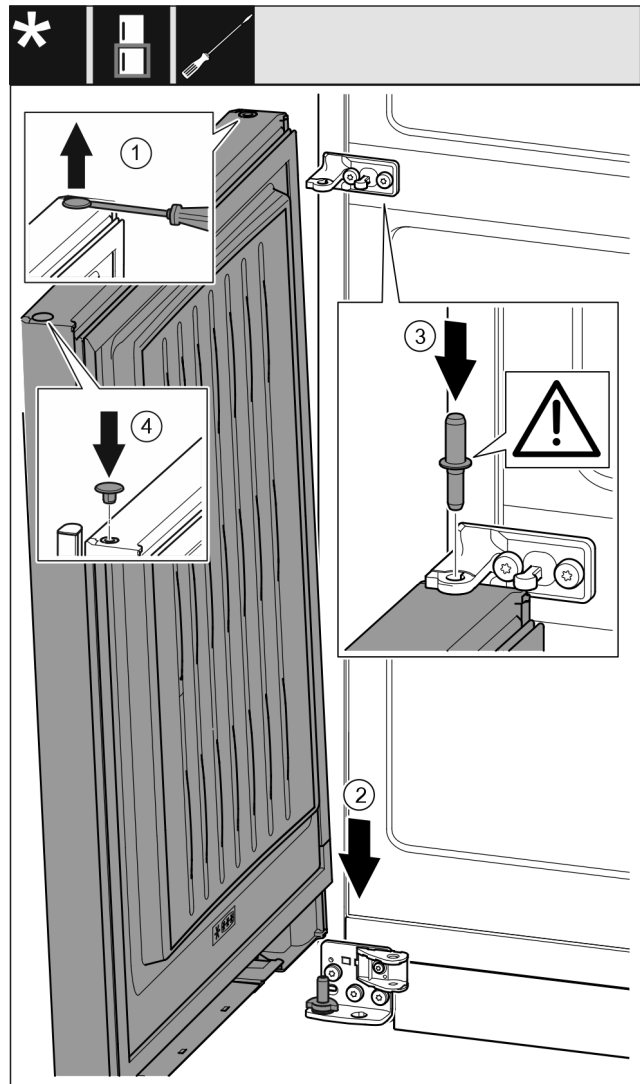

Fig. 43
- Use a slotted screwdriver to lift the plug Fig. 43 (1) carefully and pull it out.
- Lower the door Fig. 43 (2) onto the bottom bearing bolt.
- Insert the centre bearing bolt Fig. 43 (3) through the centre bearing block in the lower door. Ensure that the latching cam is pointing towards the rear.
- Re-insert the plug Fig. 43 (4) on the other door side.